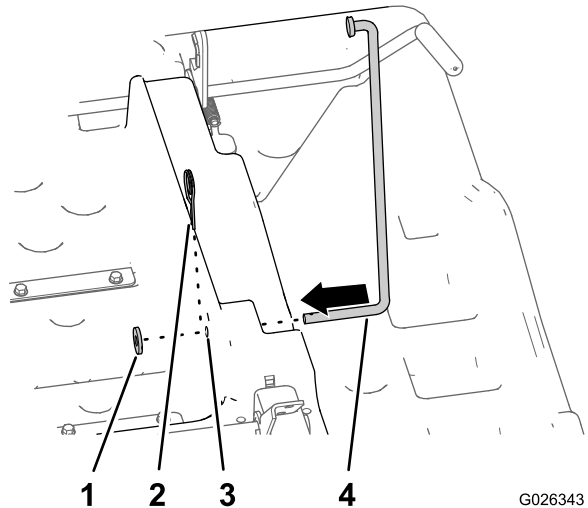

Figure 13
2. Align a washer (1/2 inch) over the long leg of the prop rod and secure the rod to the cargo bed with a hair pin (Figure 13).